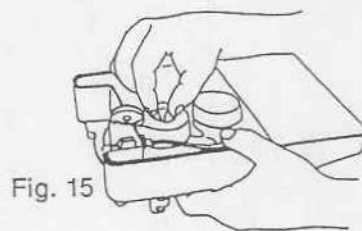

Fig. 15
6. Unscrew the motor inlet connector (6) by anti-clockwise turning of the wire wings (fig. 15).